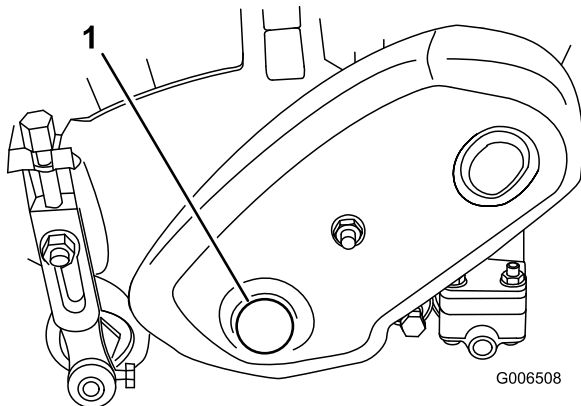

Figure 63
1. Remove plug from the reel drive cover on the left side of reel assembly (Figure 63)